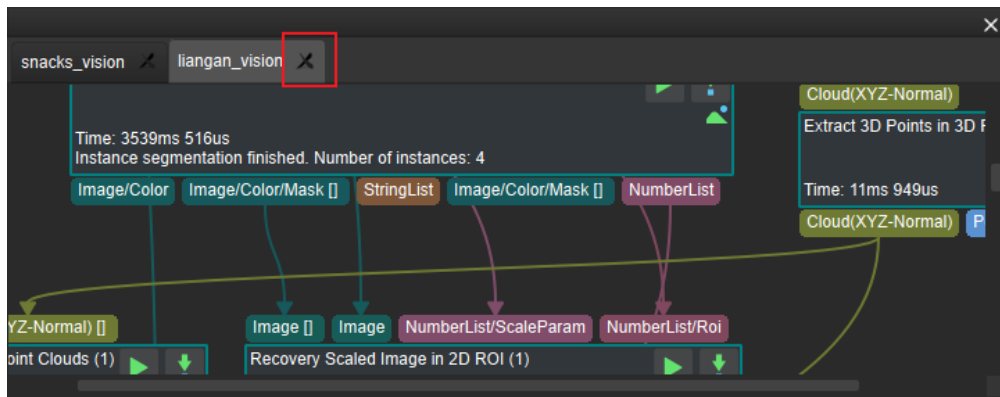

Figure 7. Close a project in the Graphical Programming Workspace
1. Only closing a project in the Graphical Programming Workspace: Click on the X sign next to the project name in the Workspace, as shown in *Figure 7*. This operation only exits the project from programming. The project is still opened in Mech-Vision and listed in the Projects panel. Double-clicking on the project name in the Projects panel will reopen it in the Graphical Programming Workspace.